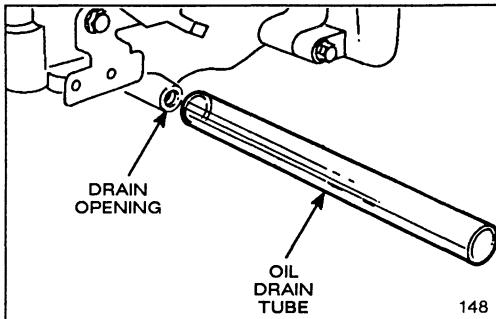

Figure 14
3. Raise left side of mower at least 12 inches. Remove drain plug using a 14mm wrench. Insert oil drain tube over drain opening (Fig. 14).